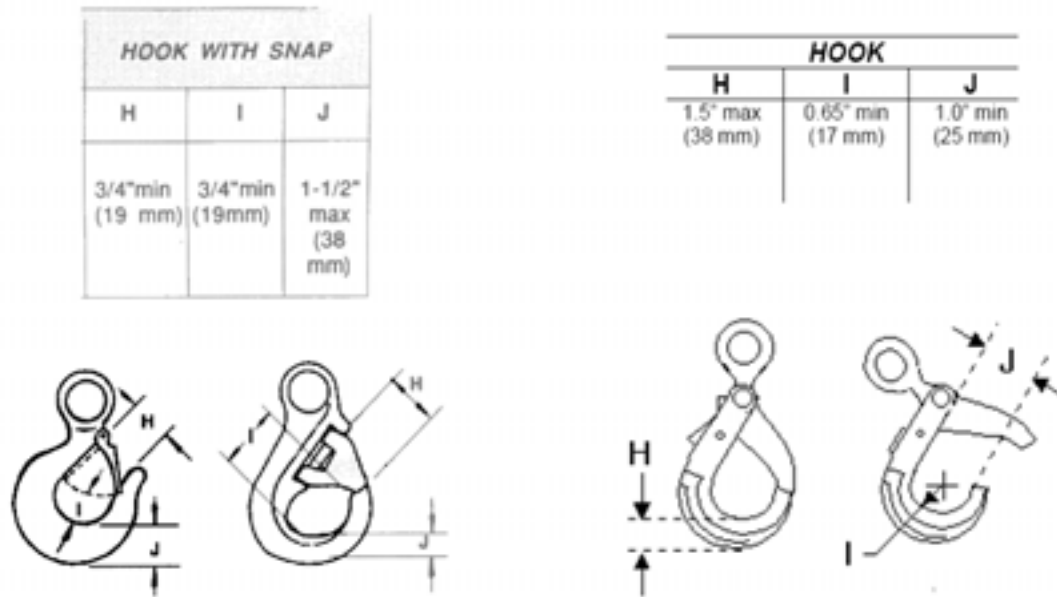

Figure 10. Dimension for Hooks
- a. Inspect hook, Check hook for damage such as cracks, nicks, wear, gouges, and deformation. See Figure 10 and 11. Check operation and ensure that hook is not bent or distorted. If any damage, deformation or wear are is found, then remove from service. See H. Salvage.
- d. Check Hook Dimensions, See Figure 10.
- e. Check Hook Dimensions, See Figure 10.